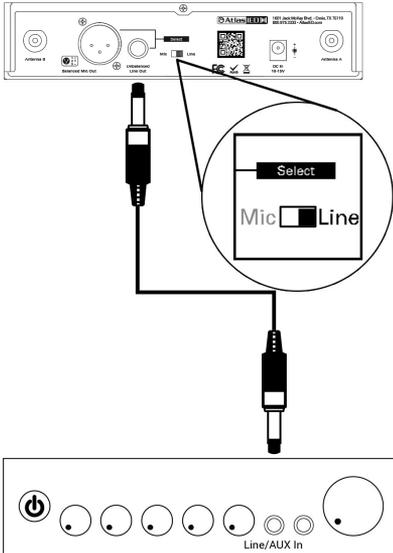
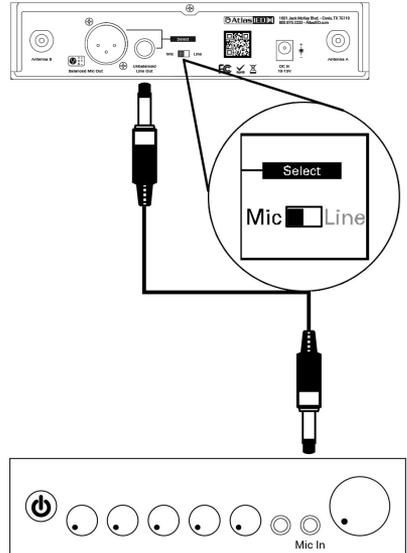

Figure 18
Figure 19
**Level Switch Setting:** When connecting to the LINE/AUX IN of a mixer/amplifier, switch to "LINE" position (Fig 18). DO NOT use the "MIC" position as they may not deliver a sufficient output level. When connecting to the "MIC IN" jack of a mixer/amplifier, switch to "MIC" position (Fig 19). Distortion may occur at the wrong level position.